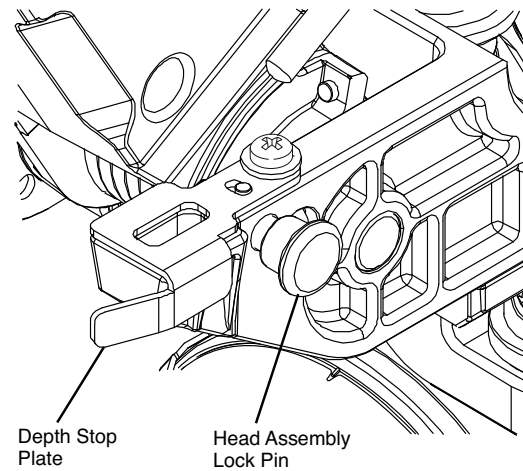

Figure 11
1. Check that the depth stop plate (item 33 - page 9) is disengaged, or pressed in to the left position.
2. Grasp the saw's main handle (item 3 - page 8) and press down on the head assembly.
3. While pressing the saw head down, push in on the head assembly lock pin. Release the head assembly. The head will be locked in the DOWN position (see Figure 11).